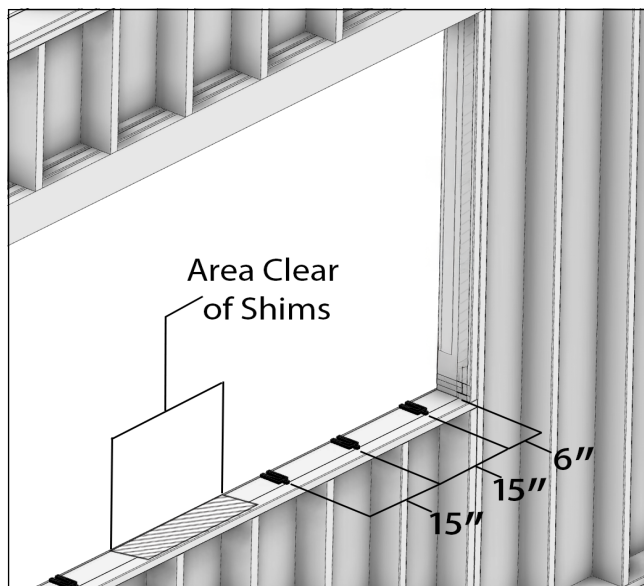

Figure 16
7. Shim unit: 1/16” shims are required to be applied to the sill prior to placing assembly in the RO. Do not shim under gusset plates. Shim spacing is 6” max from corner and 15” max on center. See Figure 16